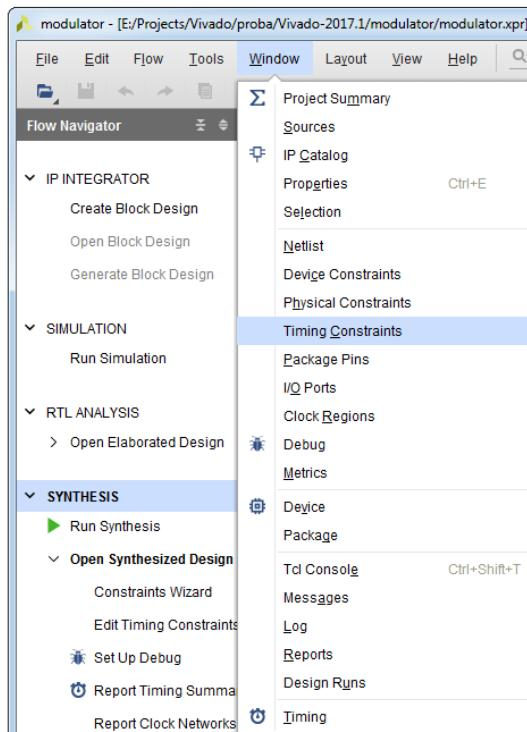

Figure 10.13: Timing Constraints option
1. Select **Window -> Timing Constraints** option from the main Vivado IDE menu to open the Timing Constraints window, see Figure 10.13, or